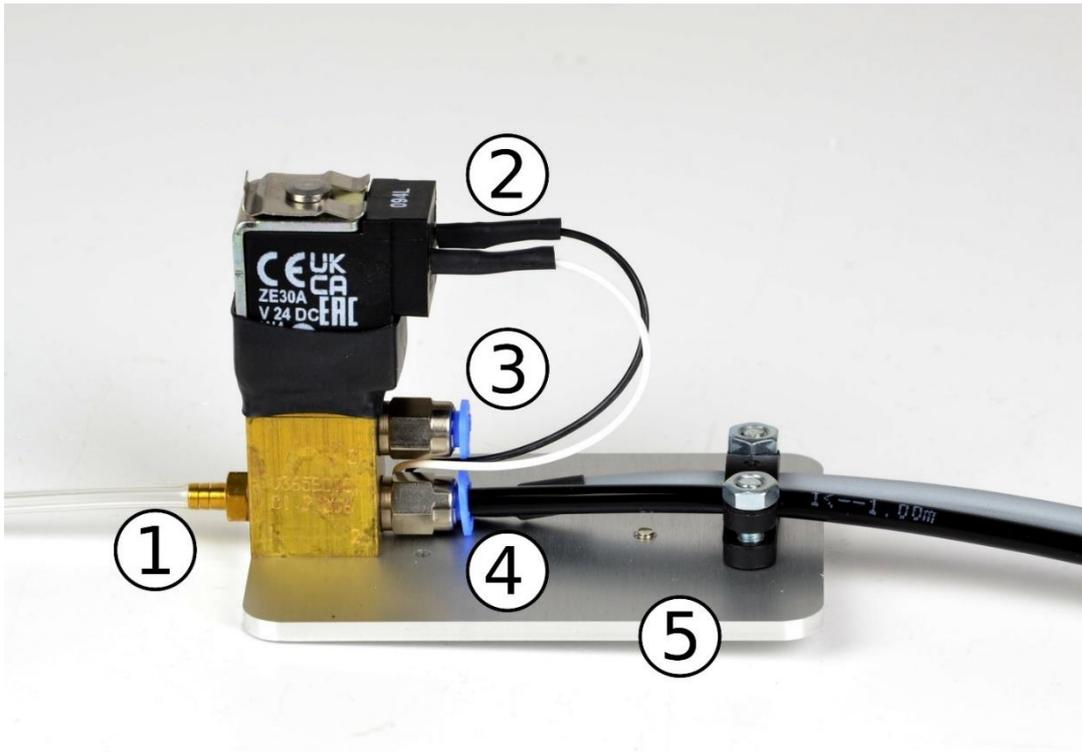
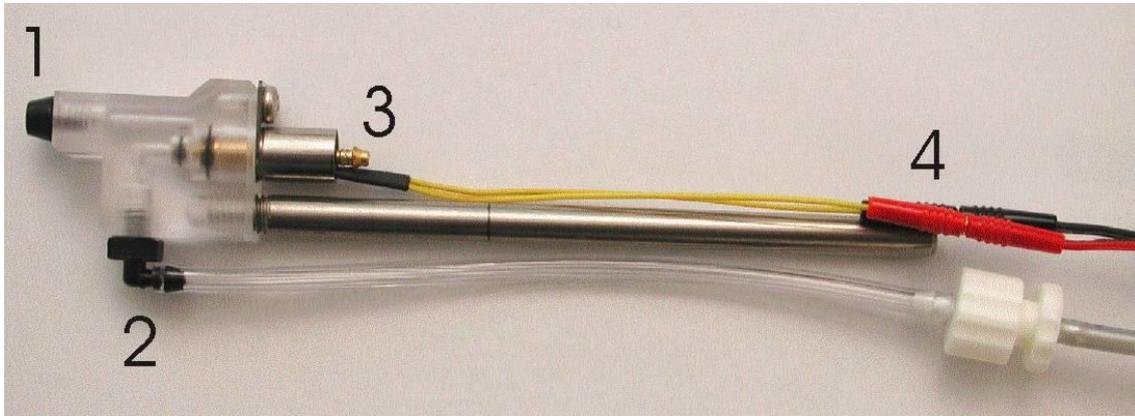

Figure 4: PDES-01-BOX: external valve on remote valve plate
Figure 5: *microJECT*
The valve which is controlled by the PDES-01LP is located on the remote valve plate (see Figure 4). Tubing and cable of the external valves are connected at the front panel of the PDES system (refer to chapter 2.5). Exhaust is usually not connected.
This special valve which is controlled by the PDES-01LP is located in the micro valve pipette holder, called *microJECT* (see Figure 5). Tubing and cable of the *microJECT* are connected at the front panel of the PDES system (refer to chapter 0). Exhaust is usually not connected.
- o Connect your ejection pipettes to the PDES-01-BOX (#1, Figure 4) or *microJECT*s (#1, Figure 5).